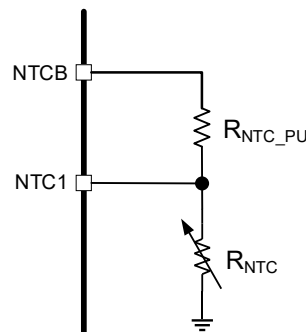

Figure 42: NTC Functional Block Diagram
44. Figure 42 shows the NTC functional block diagram.